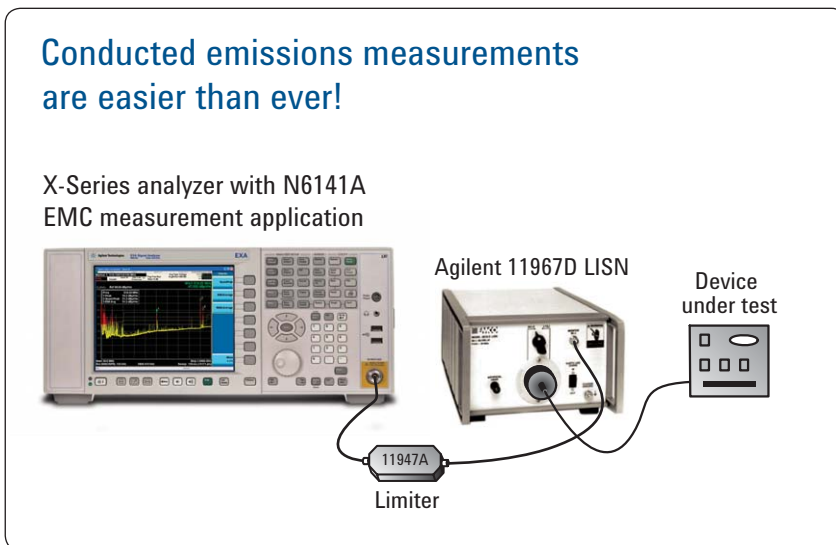

Figure 4. Conducted measurements interconnection
1. Interconnect the signal analyzer to the limiter, LISN and EUT as shown in Figure 4. Operation of the LISN and limiter is covered in Appendix A. Ensure that the power cord between the device under test (DUT) and the LISN is as short as possible. The power cord can become an antenna if allowed to be longer than necessary. Measure the signals on the power line with the DUT off. If you see the signal approaching the established limit lines, then some additional shielding may be required. Do not use ferrites on the power cord because common mode signals from the DUT may be suppressed causing a lower value measurement.